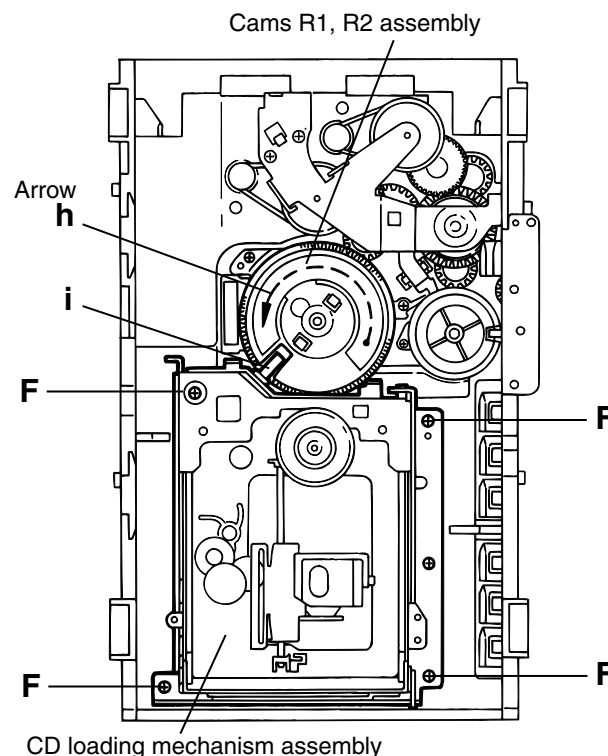

Fig.10
■ Removing the CD loading mechanism assembly(See Fig.10)
1. While turning the cams R1 and R2 assembly in the arrow direction "h", align the shaft "i" of the CD loading mechanism assembly to the position shown in Fig.10.